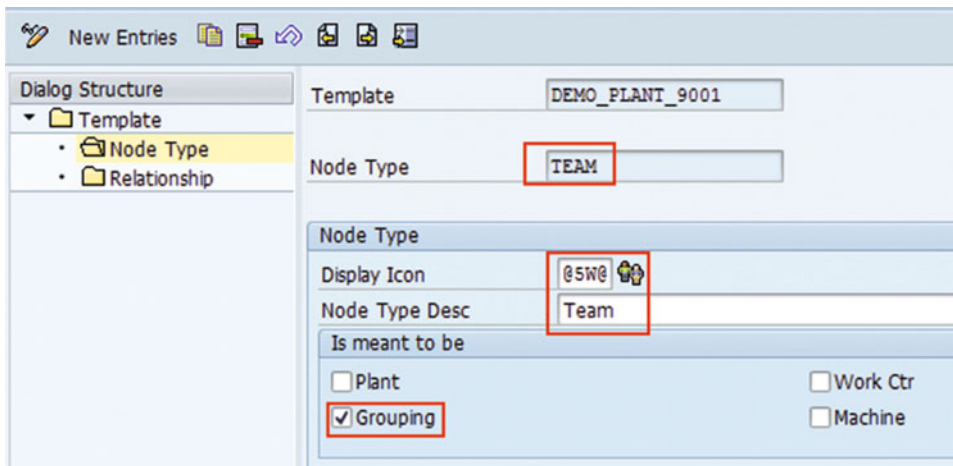

Figure 3-37. Configure plant hierarchy template: team (Level 2)
- a. Node Type: TEAM (refer to Figure 3-37)